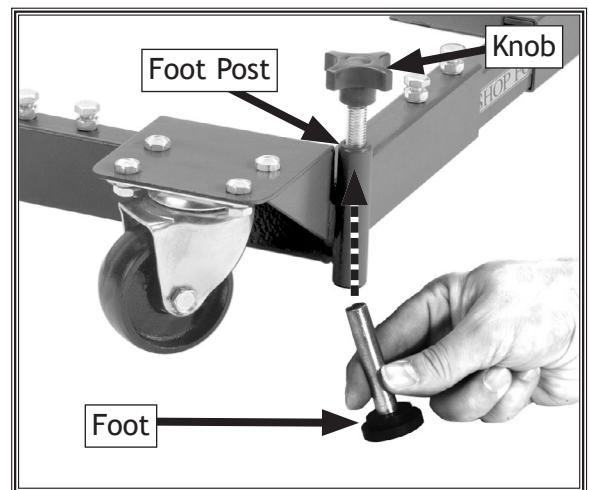

Figure 16. Installing foot pad and knob into a foot post.
9. Thread the knobs into the top of each foot post several turns, then insert a foot into the bottom of each foot post, as shown in **Figure 16**. The magnetized knob shaft should pick up the foot when it comes in close proximity.